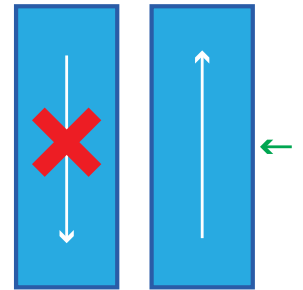

Figure 6. Flow switch install in vertical pipe
3. In the vertical pipe, the tapped hole should be in the upward direction of the flow. See Figure 6.